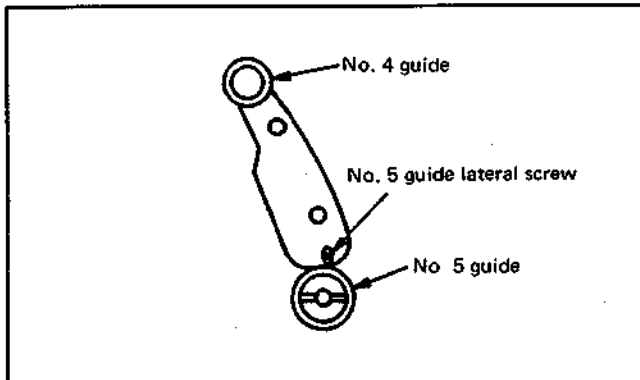
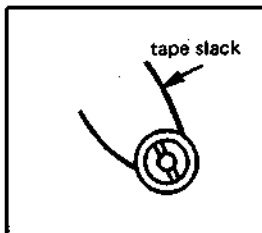
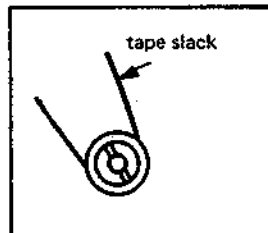

Fig. 4-9
Fig. 4-10
Fig. 4-11
- 4) Turn No. 5 guide lateral screw (Fig. 4-9) counterclockwise and make slack at the upper portion of the tape. (Fig. 4-10) Next turn the screw clockwise and fix at the position where slack disappears. (Fig. 4-11)